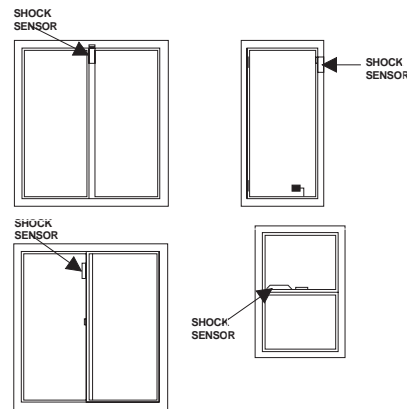

Figure 1. Mounting Options for Door/Window Styles
- Always mount Shock Sensors so that the detector is on the frame and not on glass, solid, or hollow-core doors. See Figure 1 for mounting possibilities.